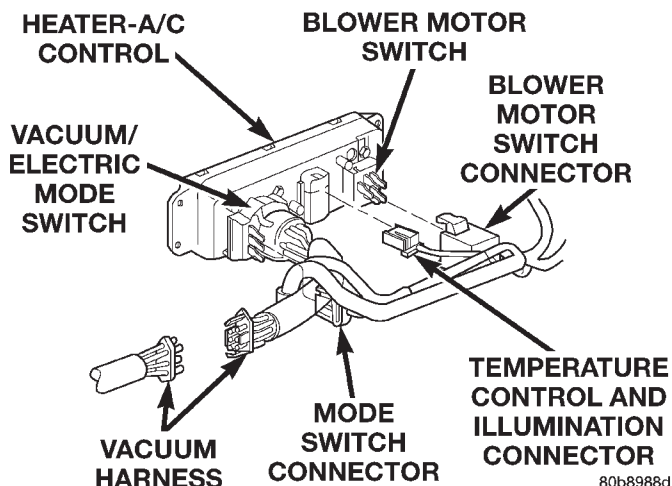

Fig. 39 Heater-A/C Control Connections
- (6) Pull the heater-A/C control assembly away from the instrument panel far enough to access the connections on the back of the control.
- (7) Unplug the three wire harness connectors from the back of the heater-A/C control (Fig. 39).
- (8) Remove the heater-A/C control from the instrument panel.